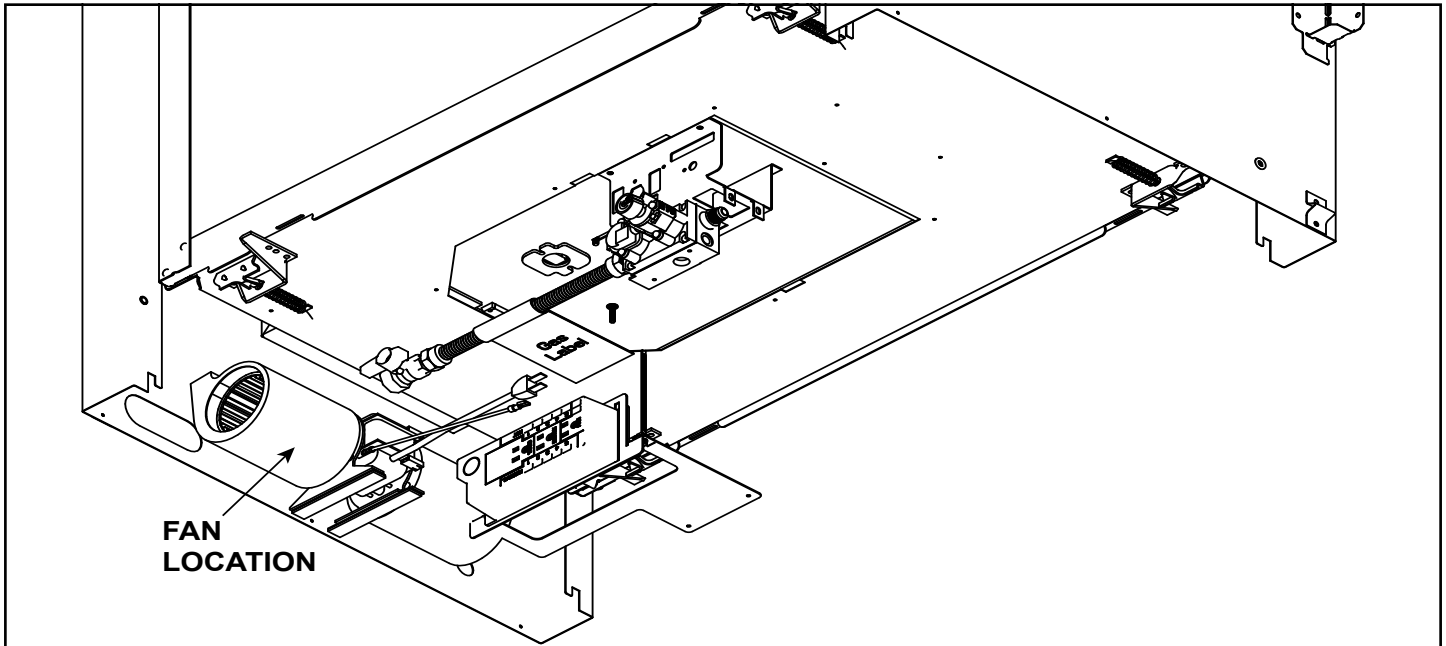

Figure 8.4 Fan Location
1. Install the fan in appliance as shown in Figure 8.4.